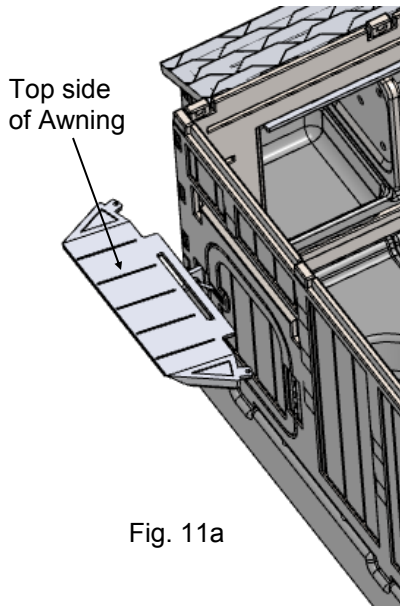
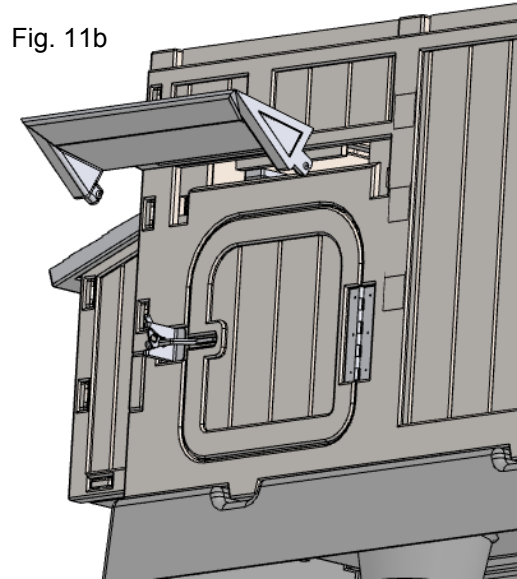
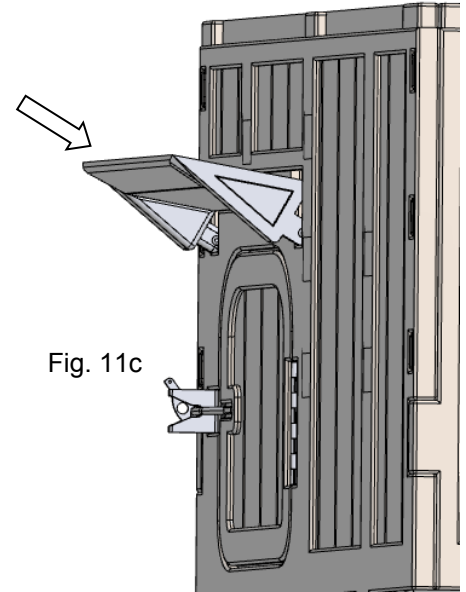

Fig. 11a
Fig. 11b
Fig. 11c
Step 11: Assemble the Awning to the Front Wall. The top of the Awning is the side that has five lines formed in it (Fig. 11a). Fold both ends of the Awning down 90 degrees (Fig. 11b). Insert the Awning into the opening above the door of the Front Wall at an angle (Fig. 11c).